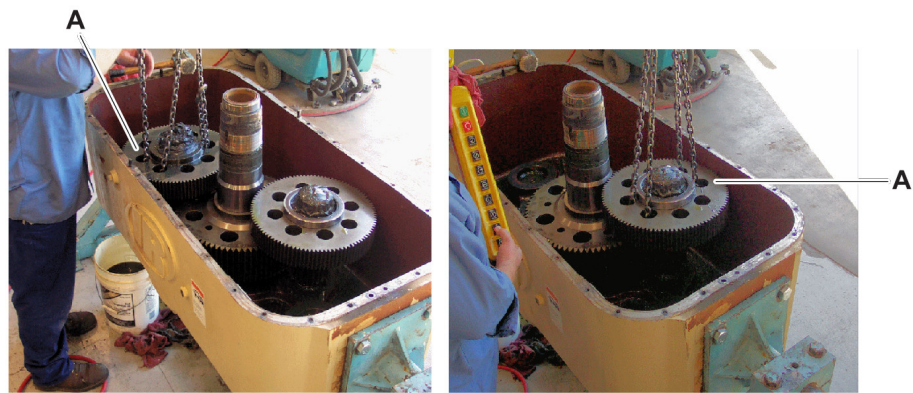

Figure 18
- Using the hoist and lifting chains attached to the intermediate gear (Figure 18, item A), lightly tap the gear shaft with either a rawhide or rubber mallet to remove the intermediate gear shafts with the attached bearings. Use a large stationary hydraulic press to push the gear off of the intermediate shafts.